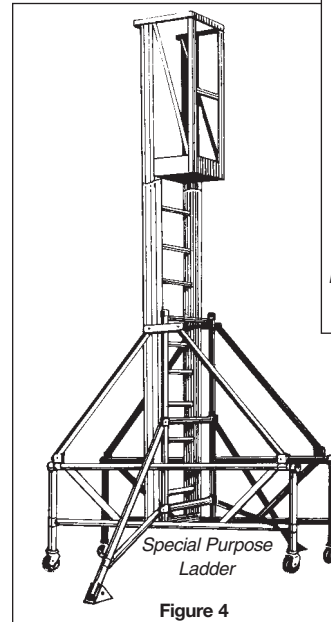

Figure 4
**Special Purpose Ladders (Figure 4)**